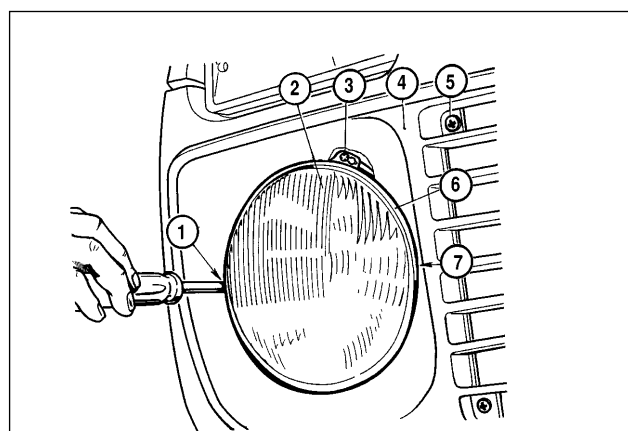

Fig.7-31. Headlight alignment:
The headlights are adjusted by means of screws 1 and 7 (Fig.7-31) which allow to alter vertical and horizontal settings of the reflector unit.
Switch on the lower beam. Using adjustment screws 1 and 7 (Fig.7-31), align the beams, first on the right-hand headlamp (while the other is covered with a piece of cardboard or dark cloth) and then on the left-hand headlamp (with the right-hand one screened).
- undo securing screws 5 and remove trim 4 (Fig.7-31);